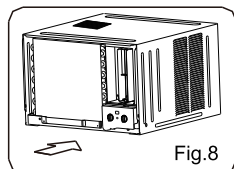

Fig.8
- Push the unit chassis into the cabinet. (see Fig.8)